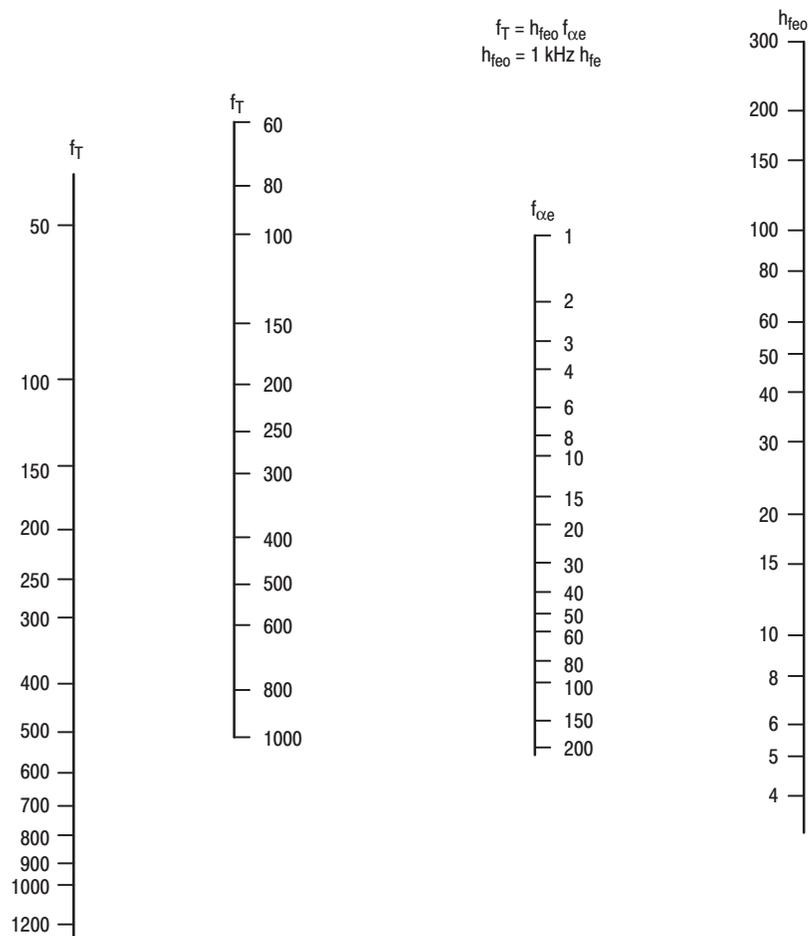
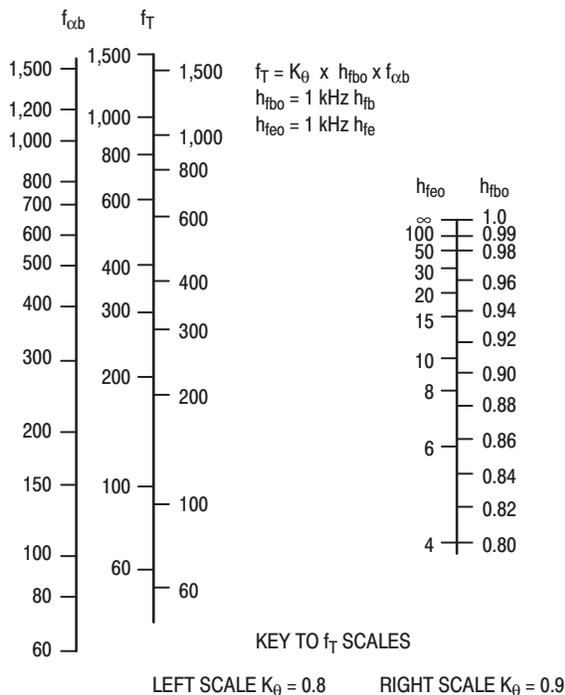

Figure 5. The Quantity f_T is Found from this Nomogram Once $f_{\alpha e}$ and h_{fe0} are Known
Figure 8. This Nomogram Represents f_T , $f_{\alpha b}$, and Either h_{fbo} or h_{feo}
with h_{fe0} known, Equation 4 provides a simple means of finding $f_{\alpha e}$ when f_T is known or vice versa. (See Figure 5.)
where K_{θ} is the same quantity as in Equation 3. Notice that since K_{θ} lies between 0.5 and 1.0, the f_T of a transistor is approximately equal to or slightly less than its $f_{\alpha b}$. (See Figure 8.)
(B) If h_{fe0} and $f_{\alpha e}$ are known, use Figure 5 to find f_T . Use Figure 8 to find f_T if $f_{\alpha b}$ is known.
(C) If f_T is known, use Figure 5 to find $f_{\alpha e}$. Use Figure 7 to find $f_{\alpha b}$ if $f_{\alpha b}$ is known.
There are no special instructions for the nomogram of Figure 5, merely use it to find the unknown parameter when any two are known. Given: $h_{feo} = 40$ and $f_T = 400$ MHz. Find: $f_{\alpha e}$. Answer: 10 MHz.
Figure 8 is a nomogram of f_T , $f_{\alpha b}$, and either h_{fbo} or h_{feo} . To account for variations in this relationship with different transistor types, there are two f_T scales, one for $K_{\theta} = 0.8$ and one for $K_{\theta} = 0.9$. Given: $f_T = 400$ MHz and $h_{fbo} = 0.90$. Find: $f_{\alpha b}$. Answer: 555 MHz (assuming $K_{\theta} = 0.8$).